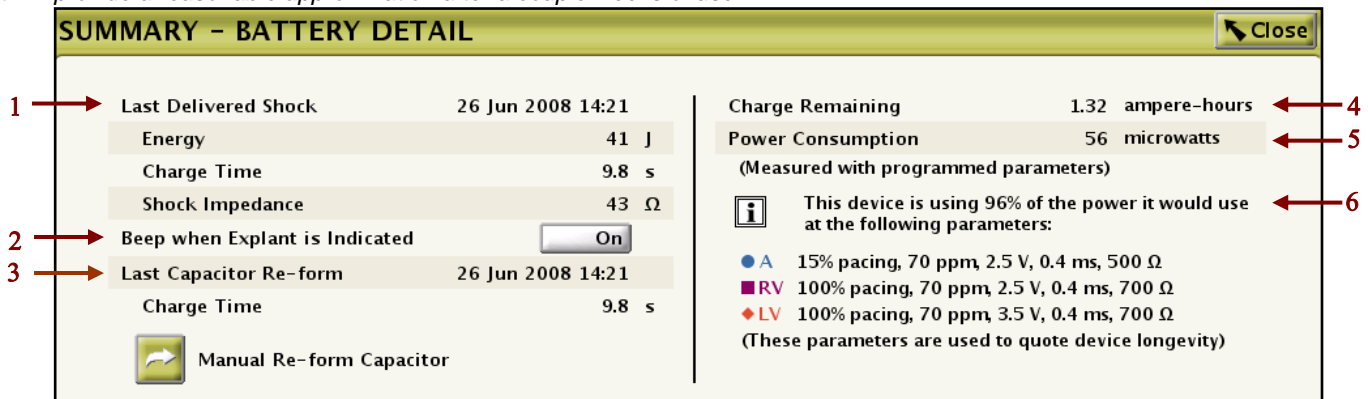

Figure 3. Battery Detail screen.
Selecting the Detail icon from the Battery Status screen allows the clinician to drill into the Battery Detail screen (Figure 3). This screen presents battery-usage information that may be helpful when troubleshooting device performance or assessing the longevity impact of device programming/reprogramming.
- 6 Power Consumption Percentage—a comparison of *current* power consumption to the power consumption used to generate longevity quotes in device system guides. In the example shown in Figure 3, the implanted device is currently using 96% of the power used to derive the longevity estimate provided in product labeling longevity tables. Therefore, the example device may have a slightly longer life than projected in labeling. *This can be used to assess the longevity impact of various programming changes.*